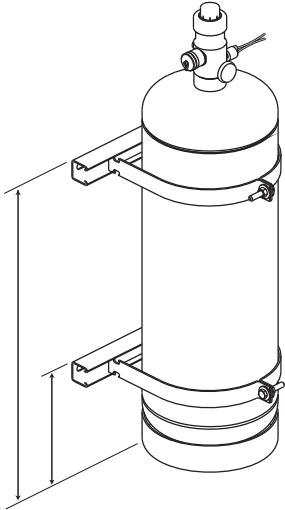

FIGURE 1
3. Insert the tank straps into the top and bottom back channel and secure with the bolts provided. See Figure 1.